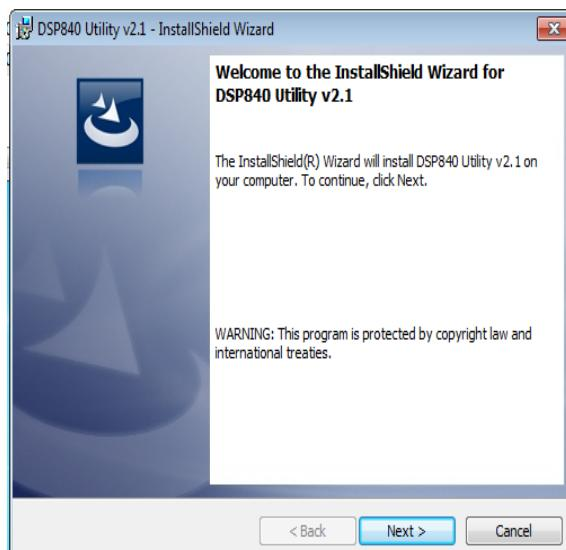

Figure 2-3 DSP840.Utility-
- ◆ Please follow DSP840\_Utiilty- Installshield Wizard Dialog, see figure 2-3~2-6.